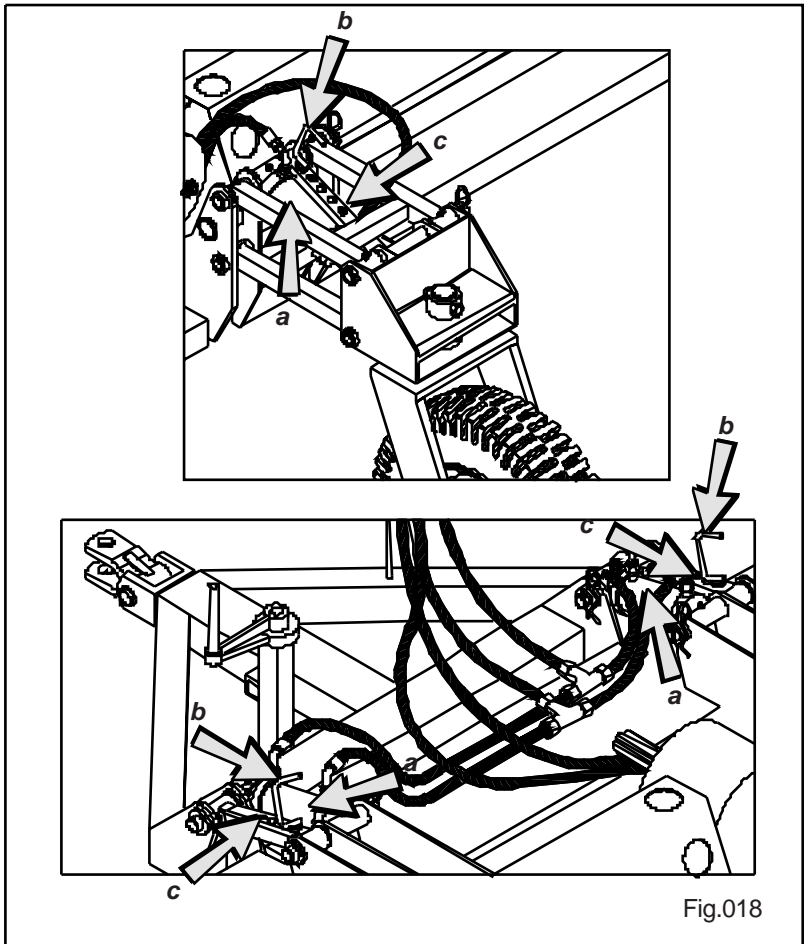

Fig.018
To ensure the effectiveness of the longitudinal leveling, it is necessary that the telescopes ("c" Fig. 018) be in the same working position.
- 1) Remove pins "b" from telescopes "c" (Fig. 018).
Note) The last telescope hole ("c" Fig. 018), obtains a height of 400mm that is used only for transport.
- 3) Upon reaching the desired height, put the telescope pins back into the holes matching them (FIG. 018) .
Note) The three telescope pins should be in the same adjustment position (hole) (Fig 018).